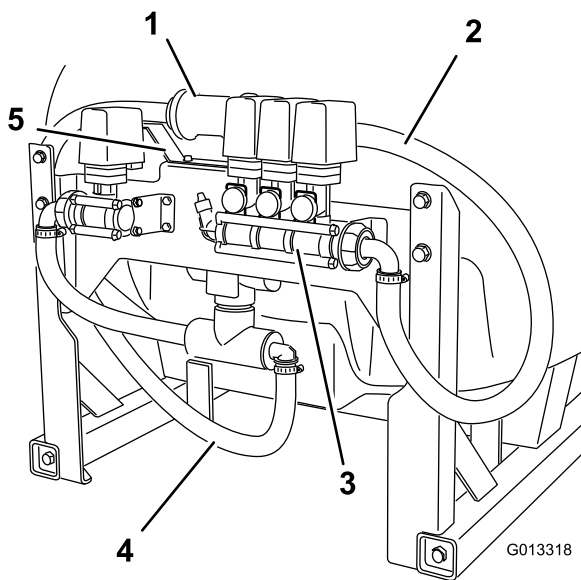

Figure 9
7. Route the open end of the new supply hose installed previously behind the left boom frame upright, up and back over the location of the installed flowmeter bracket. Slide a hose clamp onto the open end of the longer hose (Figure 9).
10. Locate the remaining hose in loose parts. Lightly lubricate the existing barb on the right side of the boom valve manifold with a non-petroleum based lubricant, such as vegetable oil. Install the hose onto the boom valve inlet barb fitting completely (Figure 9).